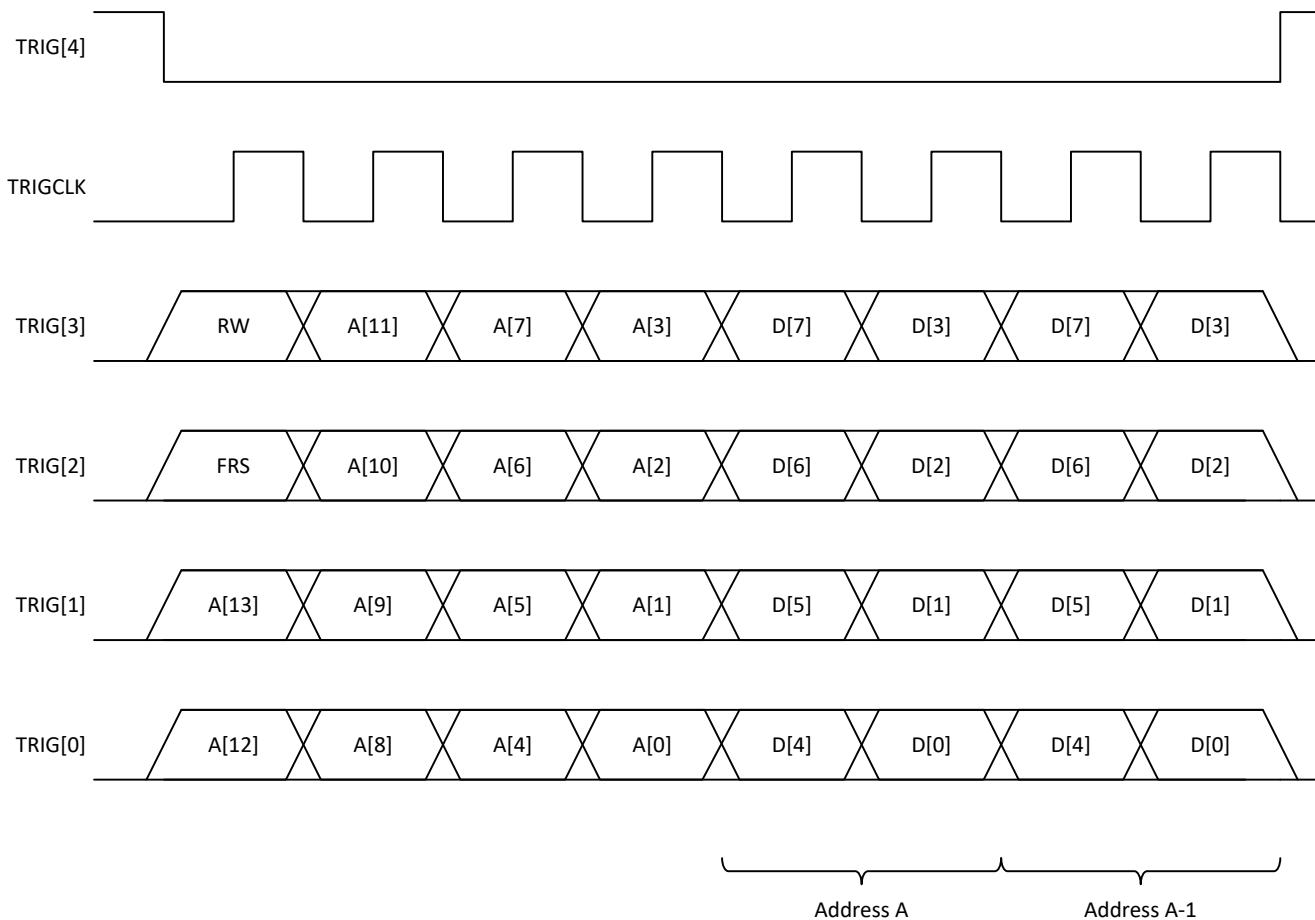

Figure 8-3. FR Interface Timing Diagram
The Fast Reconfiguration (FR) interface provides fast write-only access to configure PFIR coefficients and NCO frequency and phase. The FR interface is similar to the SPI interface, but 4 bits are sent per clock cycle, and the external trigger pins are reused. The FR timing diagram is shown in Figure 8-3. It uses a R/W bit (always set to 0 to indicate a write for this device), a transaction sync bit FRS (always set to zero as transaction synchronization is not supported for this device), and 14-bits of address followed by some number of data bytes. The address is decremented after each data byte (consistent with little-endian). The interface is byte addressable and data is committed after each byte. The FR interface is takes 4-bits (one nibble) per clock. For multi-nibble fields, data is sent most-significant nibble first. When the transaction sync bit (FRS) is set, the synchronization event specified in the NCO_SYNC_SRC register field occurs at the rising edge of $\overline{\text{FRCS}}$. Transactions ended before the completion of the first data byte may not trigger the sync event.